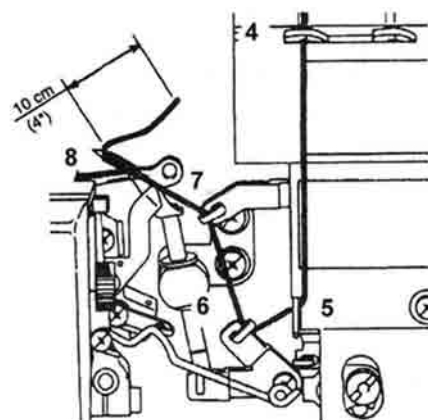

Fig. 18
5. Thread the yarn in the looper area as per the red markings (Fig. 18).